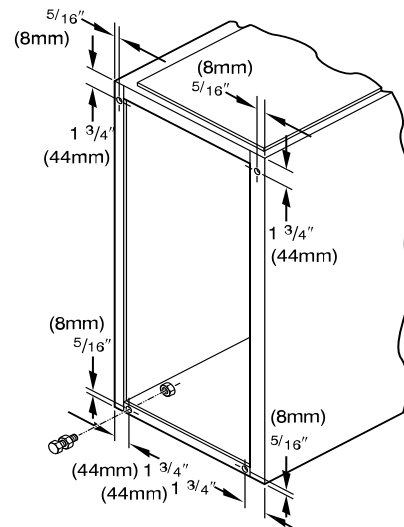

Fig. 10 – Leveling Legs
In upflow position with side return inlet(s), leveling legs may be used (see Fig. 10). Install field-supplied, $5/16 \times 1\text{-}1/2 \text{ in.}$ ($8 \times 38 \text{ mm}$) (max) corrosion-resistant machine bolts, washers and nuts.
1. Position furnace on its back. Locate and drill a hole in each bottom corner of furnace (see Fig. 10).